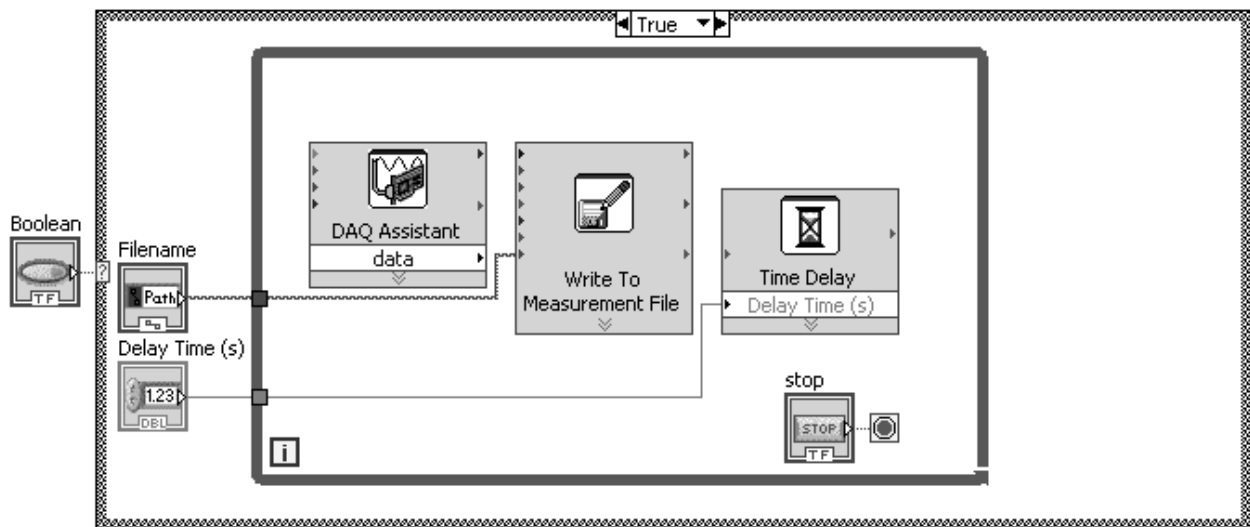

Figure 1.4.9 Intermediate view of the block diagram after the While Loop is created
23. Select **Express>>Execution Control>>While Loop**, place the cursor to the upper left of the three Express VIs, left-click the mouse and hold it down, drag the icon to the lower right to enclose the three Express VIs (but not the controls to the inputs of these Express VIs) as shown in Fig 1.4.9, and release the mouse key to create the While Loop.